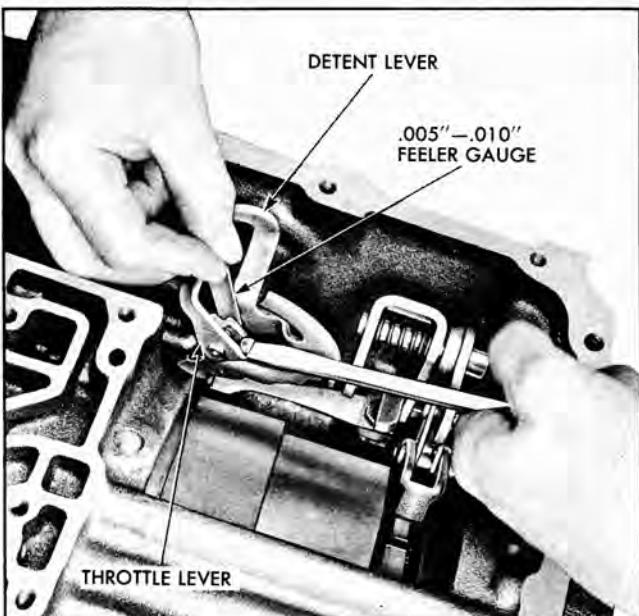

Fig. 148 Installing Inside T.V. Lever
4. Tighten set screw while holding lever as shown in Fig. 148.
8. Using .005"-.010" feeler gauge between inside TV lever and detent lever (Fig. 148) press TV lever onto TV shaft as far as possible and *tighten lock screw to 10-12 lb. ft. torque*.